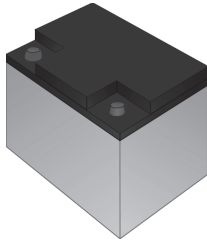

Figure P11.16 Battery temperature in a self-driving vehicle.
- 11-16.** The battery temperature in a self-driving vehicle is monitored and determined to be normally distributed with a mean of 40 °C and a standard deviation of 5.4 °C. What is the probability that the temperature of the battery in Fig. P11.16 will be above 32 °C?